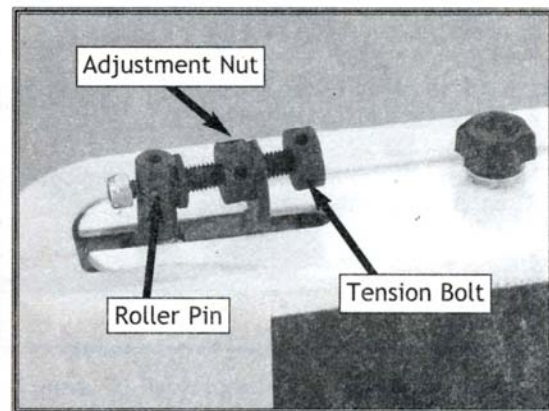

Figure 7. Tracking adjustment system.
3. Loosen the knurled adjustment nut away from the roller pin, shown in Figure 7.